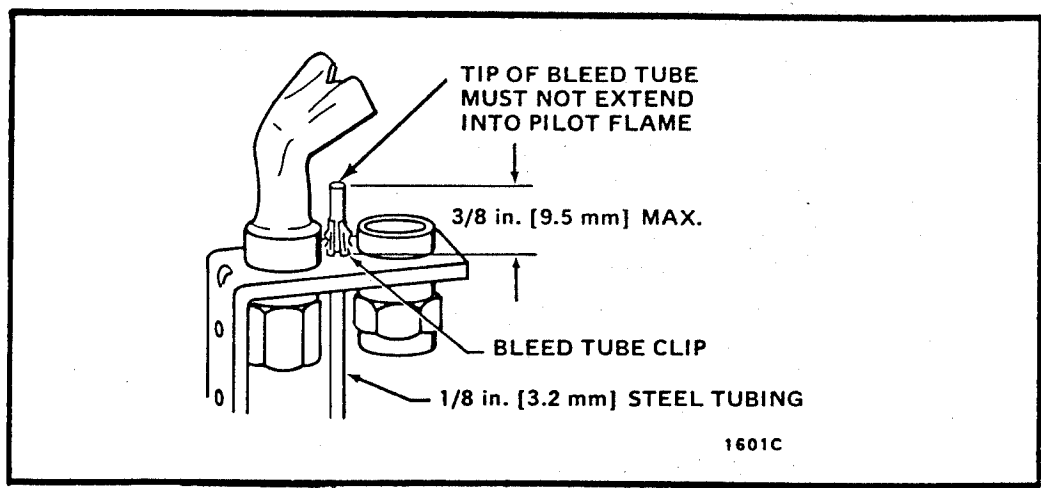

Fig. 33—Typical bleed tube installation.
10. Route the bleed tubing to the pilot burner location and secure it to the burner according to the manufacturer's instructions. See Fig. 33 for typical installation.